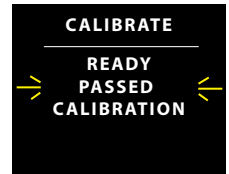
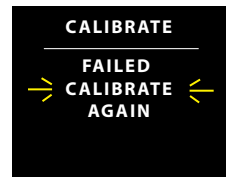

Fig. 88E - PASSED (reverts to Surface Main)
Fig. 88F - FAILED (reverts to Fig. 88A)
- > Once fully formed, the circle will be replaced with the graphics READY PASSED CALIBRATION (Fig. 88E) or FAILED CALIBRATE AGAIN (Fig. 88F), flashing for 3 seconds, then -